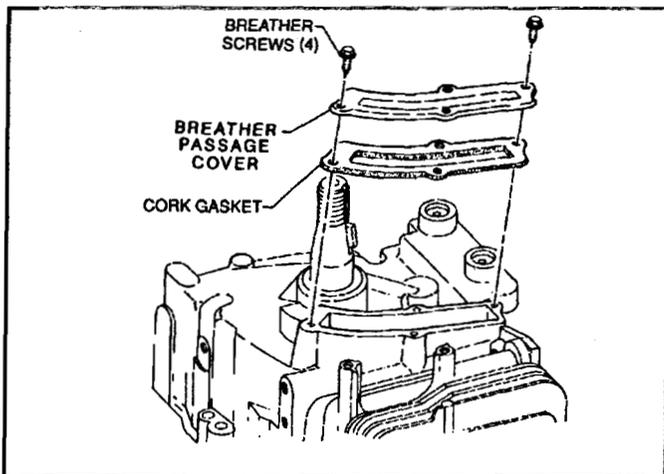

Figure 61
1. Remove the four 1/4" hex, washer head cap screws that retain the breather passage cover as shown in Figure 61.